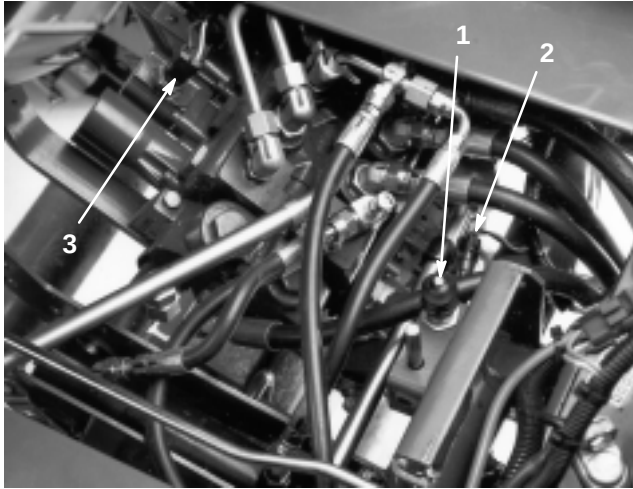

Figure 51
2. Remove the boot from the button end of the seat switch (Fig. 51) and retain it for installation on the replacement switch. Unplug the switch connectors.
2. Unplug the switch connectors from the traction switch installed in the valve bank bonnet on the selector valve section (Fig. 51).
2. Unplug the switch connectors from the end of the mow/lift switch installed in the valve bank bonnet (Fig. 51).